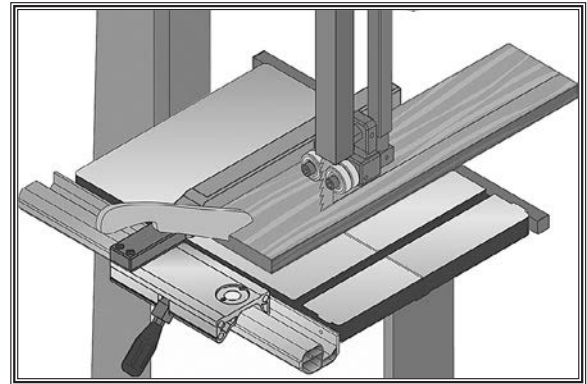

Figure 75. Example of a ripping operation.
3. After all safety precautions have been met, turn bandsaw **ON** and wait for it to come to full speed. Slowly feed workpiece into blade until blade is completely through workpiece. **Figure 75** shows an example of a ripping operation.